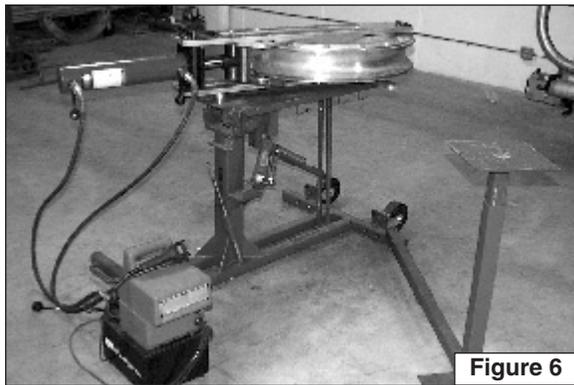
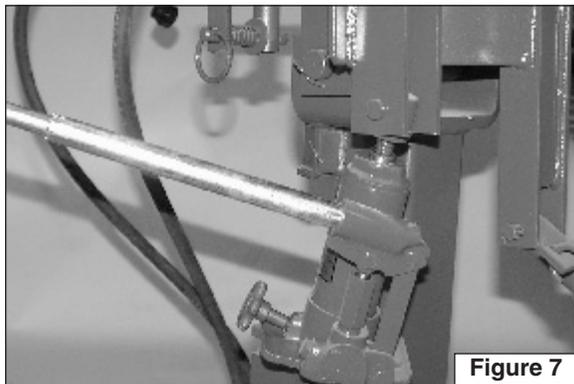
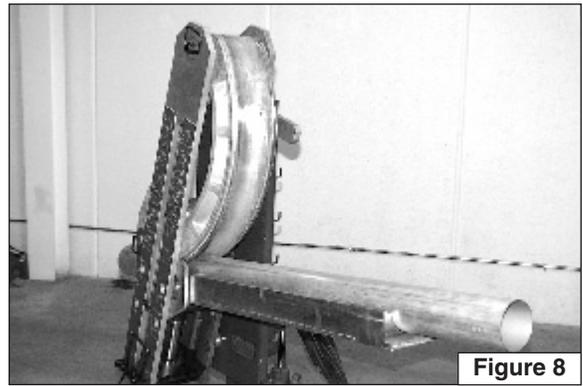

Figure 6
Figure 7
Figure 8
To change the table top position from horizontal (Fig. 6) to vertical (Fig. 8), begin with all bender components
valve by turning it clockwise. Insert the jack handle in jack, and operate the pump as indicated in Fig. 7. Operate the pump until the table top is in a full vertical position as shown in Fig. 8.
2. To change the table top position from vertical (Fig. 8) to horizontal (Fig. 6), open safety latch by pulling the